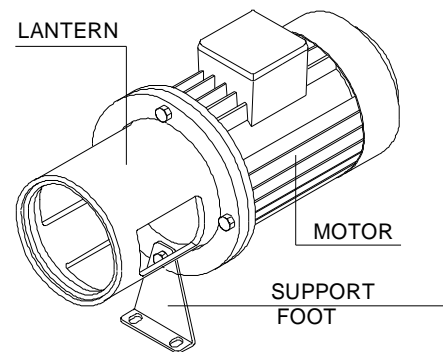
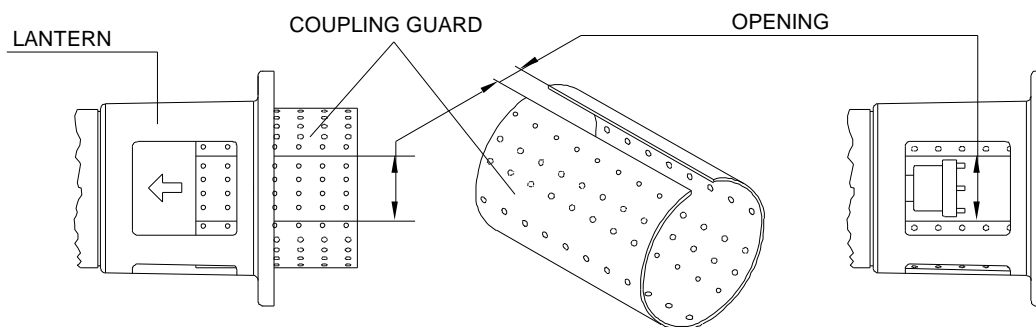

Fig. 19
Fig. 20 - PREPARING TO ASSEMBLE THE MONOBLOCK DESIGN
- 2 - Insert the perforated metal sheet coupling guard inside the lantern so that the coupling is accessible from one of the lateral openings. Couple the electric motor to the pump lantern engaging the two coupling halves, hands may reach the coupling halves through the lateral opening (see fig. 20) tighten the assembly with bolts supplied with the unit and install the supporting foot, when applicable (see fig. 19). When tightening the connecting screws between lantern and motor make sure not to force the two half-couplings until they touch each other. If this occurs remove the motor, axially move the half-coupling on the shaft and repeat the fixing procedure.